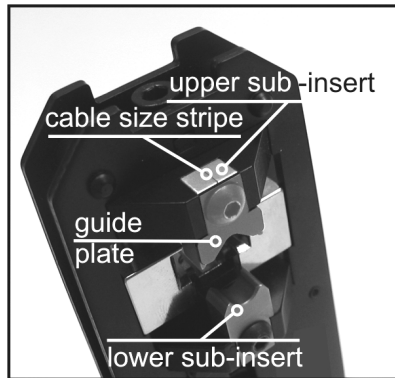

Fig.1.
- Fig.1. clarifies terms "upper sub-insert" and "lower sub-insert" necessary for correct tool preparation. Using the inappropriate combination of sub-inserts and cable size (O.D.) may result with false crimp, and tool damaging for which the manufacturer can not be held responsible.
- Always remember to reattach guide plate (Fig.1). Failing to do so may influence normal tool functioning.